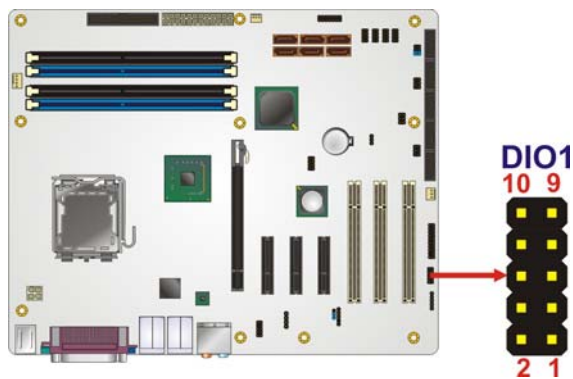

Figure 4-6: Digital I/O Connector Locations
- CN Location:** See **Figure 4-6**